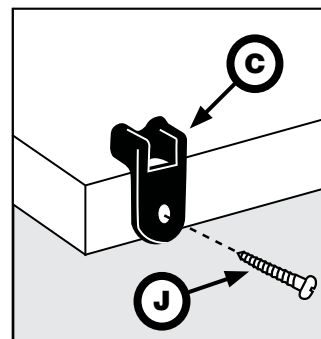

**Figure 1**
- 3 Position front and rear wire connectors (**C, D, E**) on top of drawing board as shown in **Figure 1**. Use chart below to determine proper spacing. Center the straightedge (**B**) on the board.